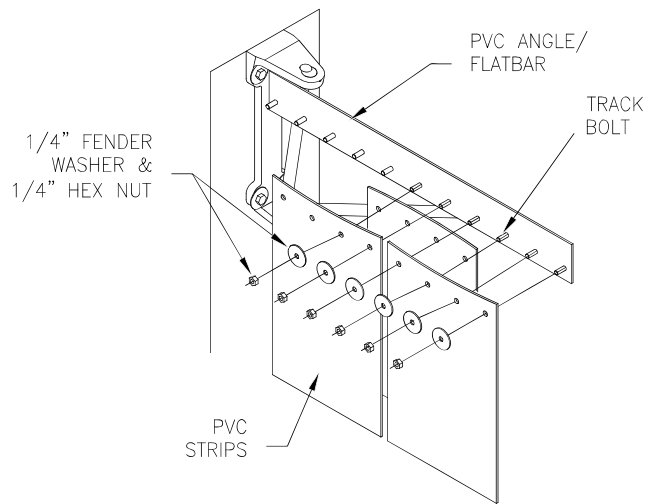

FIG. 7
- a. Attach PVC strips to swing arm (Fig. 7).
- b. Secure PVC strips into position using 1/4" fender washers and 1/4" hex nuts, use 7/16" socket driver bit (Fig. 7).